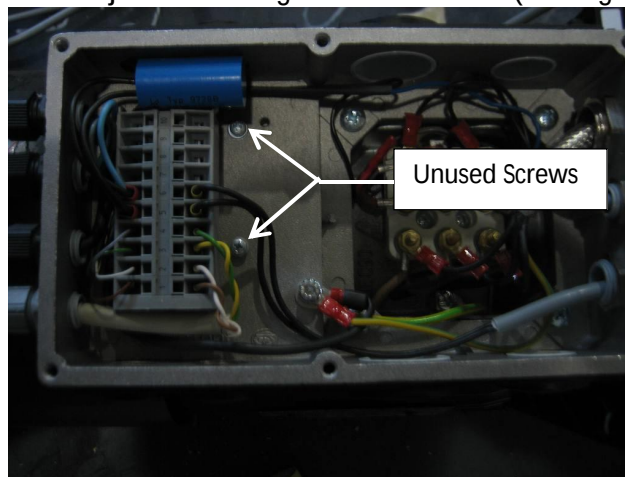

Figure 1
1. Add rectifier to motor head junction using unused screws. (See Figure 1).